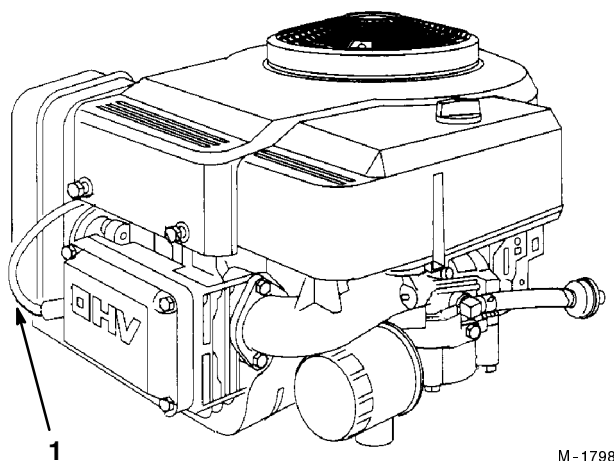

Figure 21
3. Pull the wire off the spark plug (Fig. 21). Now clean around the spark plug to prevent dirt from falling into the engine and potentially causing damage.
3. Push the wire onto the spark plug (Fig. 21).